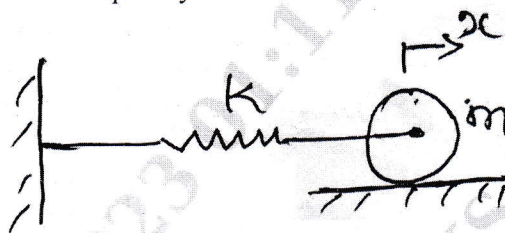

Fig.Q8(b)
- b. A circular cylinder of mass 4 kg and radius 150 mm is connected by a spring of stiffness 4000 N/m as shown in Fig.Q8(b). It is free to roll on horizontal rough surface without slipping, determine the natural frequency.